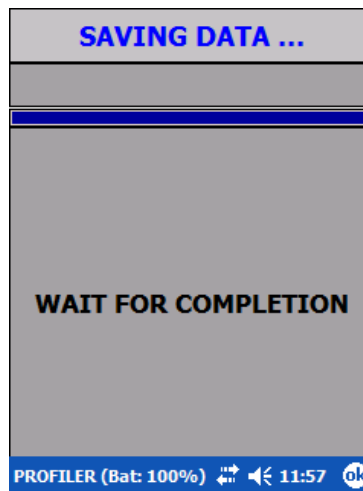

Figure 66: Saving Data progress display.
3. If **Yes** was selected by the user to Stop data collection, the Saving Data progress screen will be displayed (Figure 66).